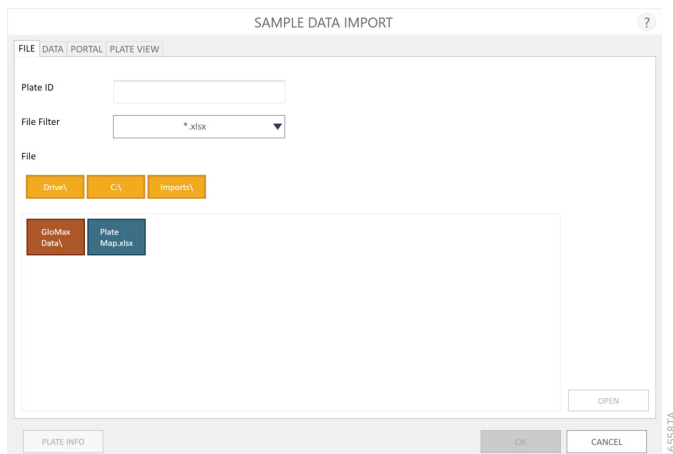

Figure 47. 'Sample Data Import' screen. First screen shown when importing a plate map into the GloMax® Software.
3. Tap the **Import** button located on the right side of the 'Protocol-specific' screen (Figure 46) to display the 'Sample Data Import' screen (Figure 47).